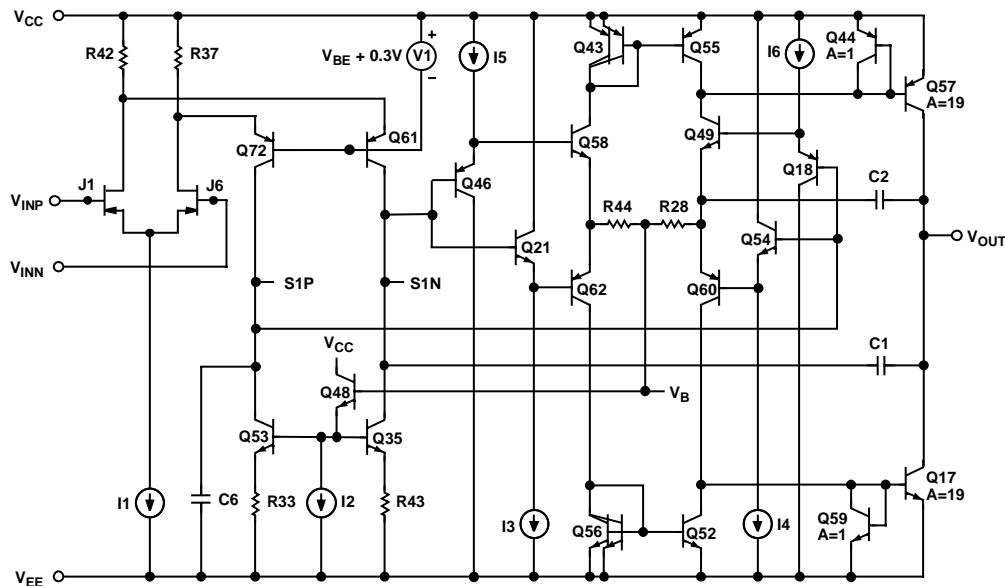

Figure 36. Simplified Schematic
The AD823 is fabricated on the Analog Devices proprietary complementary bipolar (CB) process that enables the construction of PNP and NPN transistors with similar f_{TS} in the 600 MHz to 800 MHz region. In addition, the process also features N-Channel JFETs, which are used in the input stage of the AD823. These process features allow the construction of high frequency, low distortion op amps with pico-ampere input currents. This design uses a differential output input stage to maximize bandwidth and headroom (see Figure 36). The smaller signal swings required on the S1P, S1N outputs reduce the effect of the nonlinear currents due to junction capacitances and improve the distortion performance. With this design harmonic distortion of better than -91 dB @ 20 kHz into 600Ω with $V_{OUT} = 4$ V p-p on a single 5 V supply is achieved. The complementary common emitter design of the output stage provides excellent load drive without the need for emitter followers, thereby improving the output range of the device considerably with respect to conventional op amps. The AD823 can drive 20 mA with the outputs within 0.6 V of the supply rails. The AD823 also offers outstanding precision for a high speed op amp. Input offset voltages of 1 mV maximum and offset drift of $2 \mu\text{V}/^\circ\text{C}$ are achieved through the use of the Analog Devices advanced thin-film trimming techniques.